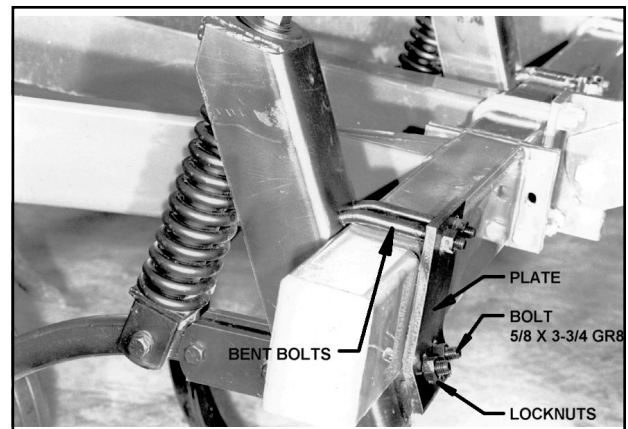

Figure 3-19 - Spring Cushion Shank
- a. Mount shank assembly to frame with two 5/8" bent bolts and two 5/8" x 3-3/4" Grade 8 bolts, lock nuts and plate (**See Figure 3-19**).